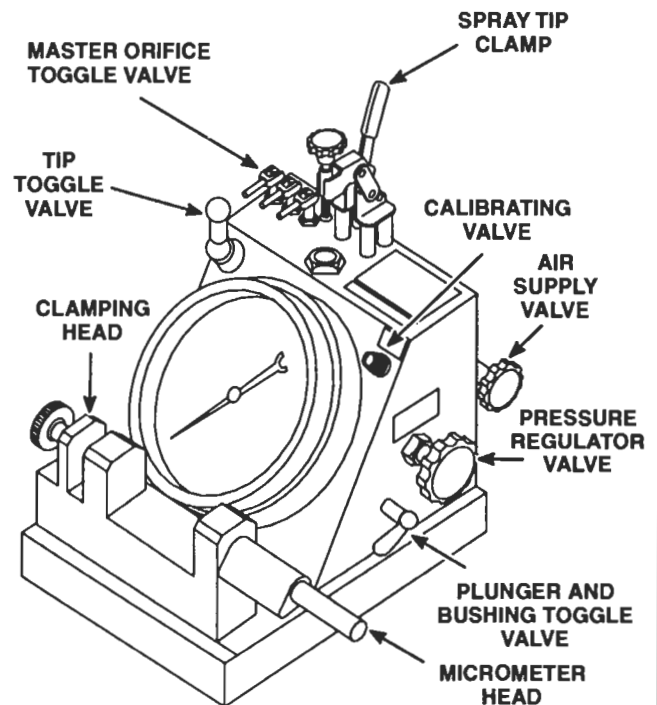

Figure 12. Plunger/Bushing and Tip Flow Gage J 25600-A
1. Set all toggle valves in the closed position (Figure 12.)